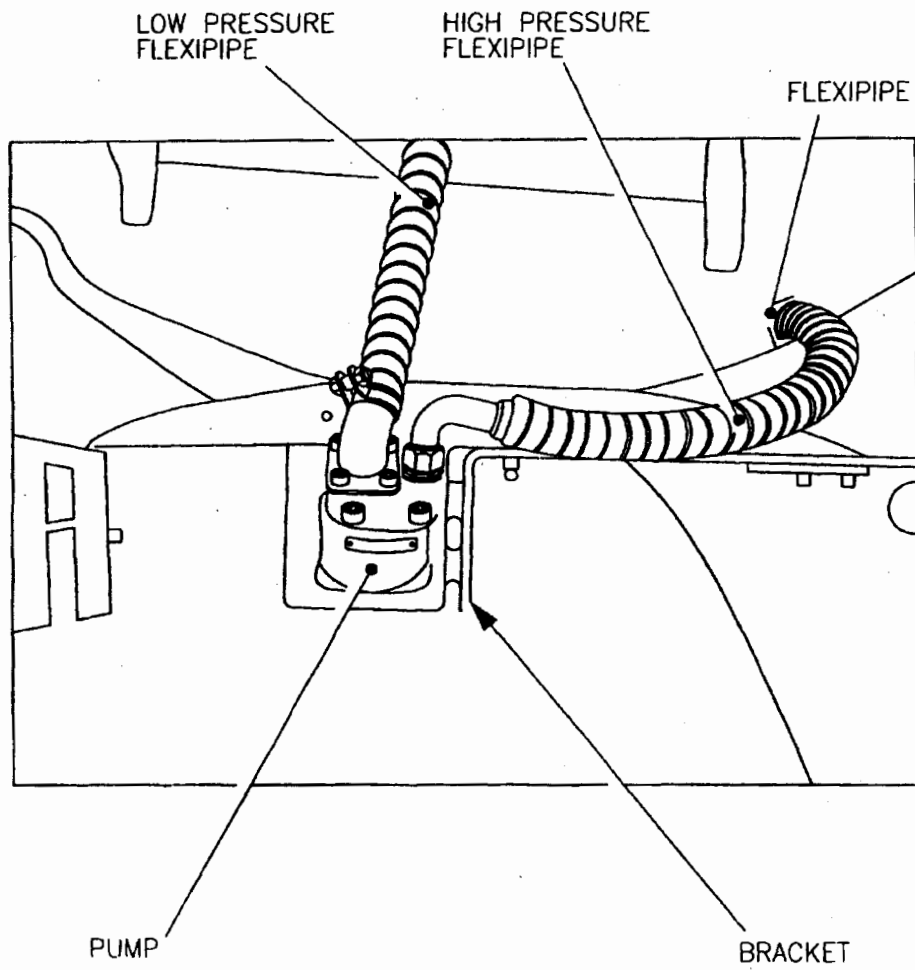

Fig 3 4 x 4 Pump with pipes mounted on bracket viewed from
9.6 Fit the new bracket using M10 x 30 bolts and fit the new pump with the bent axis veering upwards, to the bracket using M12 x 40 bolts and self retaining nuts, as shown in Fig 3.
9.8 Assemble and tighten the new 12mm steel pipe adapter and the metric to BSP converter together in the vice and connect the assembly to the straight end of the high pressure flex pipe and tighten. Apply the protective wrap and fit the pipe's elbowed end to the pump, running the pipe over the cross-members as shown in Fig 3. Feed the pipe along, and up, connecting it to the 12mm steel pipe which is the pressure inlet of hydraulic circuit. Clip the pipes as shown in Fig 5 along its length by picking up the pre-drilled holes in the tops of the cross-members using large surface washers on the bolt heads to utilise the larger holes in the cross-members. It is necessary to drill one 8.5mm hole in the piece of pressed angle positioned near the spare wheel carrier for the front clip to be fitted. Drill the hole 150mm in from the rivet on the off-side which secures the pressed angle to the chassis. Cut the protective wrap at the clip positions to allow their fitment and clip and tighten the pipe in position at both ends ensuring it will not suffer damage, by contact with other components. It may be necessary to put a slight bend in the 12mm steel pipe to ensure the pipes, both steel and flex, are clear at the front end, particularly of the air system pipes.